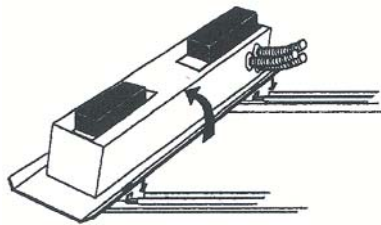

Figure 1
1. Pivot emergency ballast assembly onto mounting rails of rough-in section as shown in Figure 1. Make any necessary vertical adjustments to assure that the bottom of the rough-in section is flush or slightly above (1/8" max.) the ceiling line.